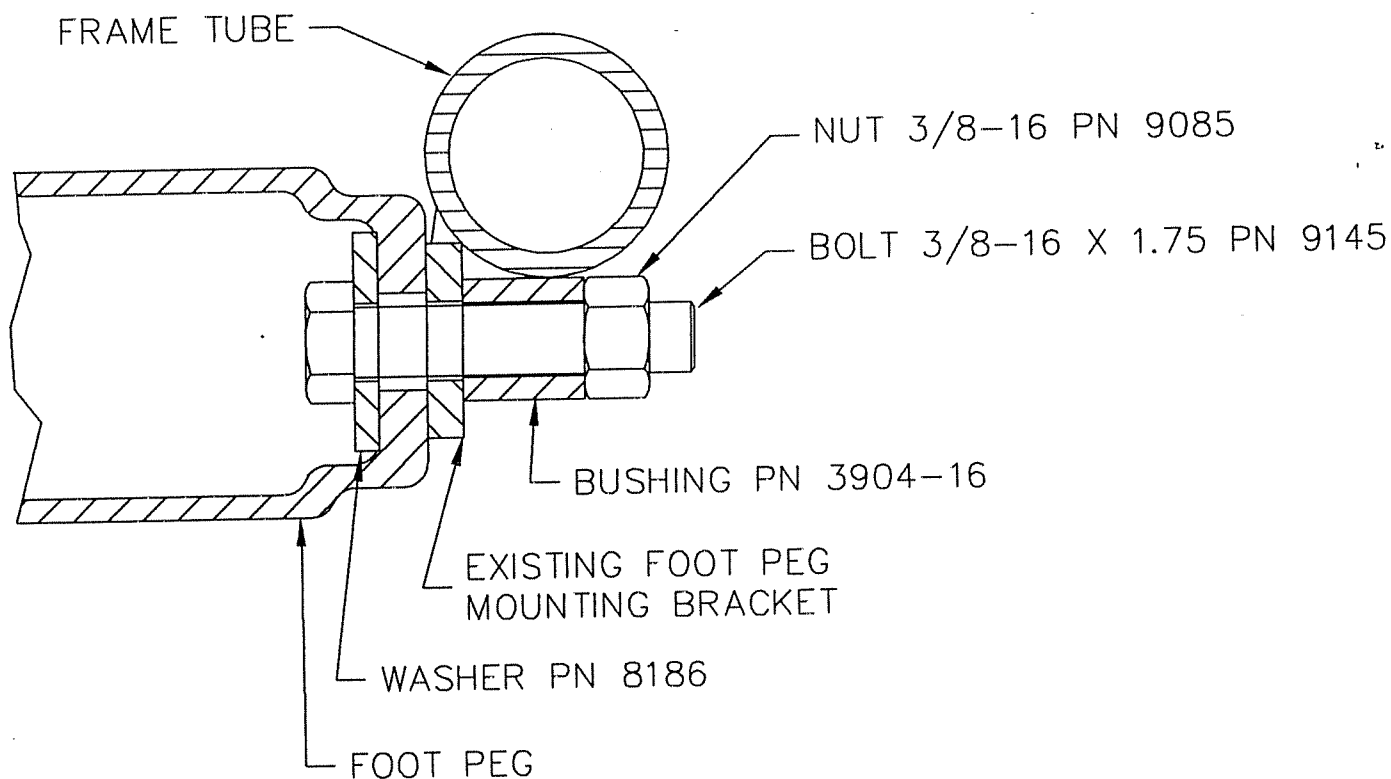

FIGURE 1
9. Rout the Throttle Cable as shown in Figure 1.
Steps for Installation: (Refer to FIGURE 1)
2. If your bike has a slotted bracket for mounting the foot pegs, use the hardware furnished with this kit. Mount the foot pegs as shown in figure 1.